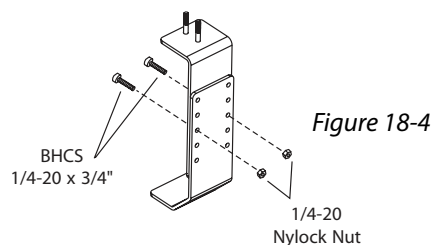

Figure 18-4
4. Attach brackets together and fasten using supplied hardware. [Figure 18-4]